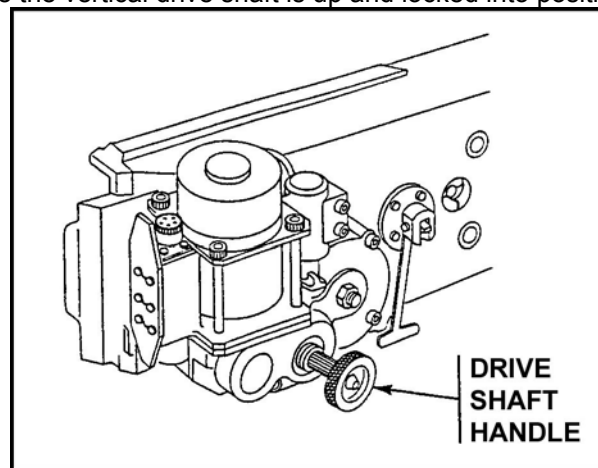

Figure 16. Vertical drive shaft.
- (b) Ensure the vertical drive shaft is up and locked into position (Figure 16).